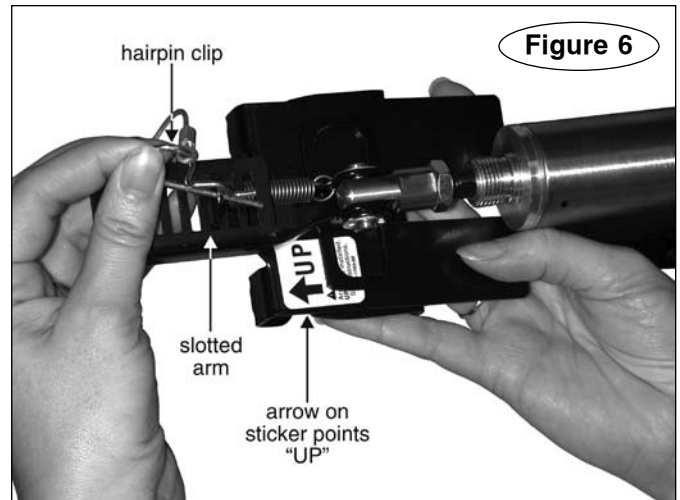

Figure 6
7. Pull the hairpin clip (Figure 6) out, then lift the slotted arm (Figure 6) up and out of the way.
8. Verify that the pedal clamp is right side up, as shown in Figure 6 – the arrow on the sticker will point “Up” when the pedal clamp is properly positioned.